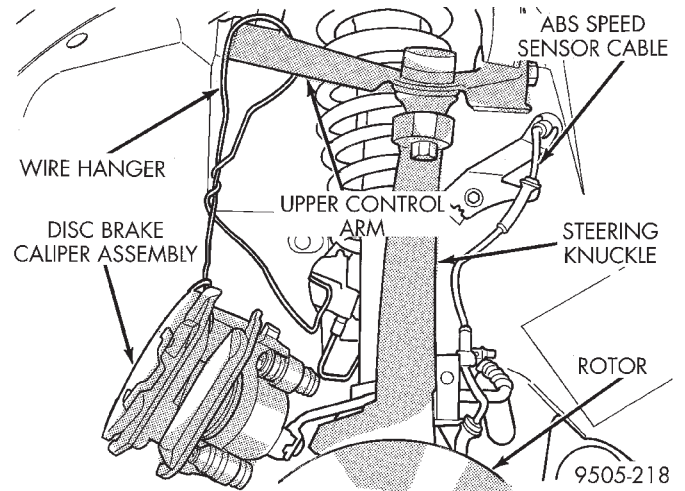

Fig. 43 Correctly Supported Front Disc Brake Caliper
(7) Support brake caliper/adapter assembly using a wire hook (Fig. 43) and not by hydraulic hose.